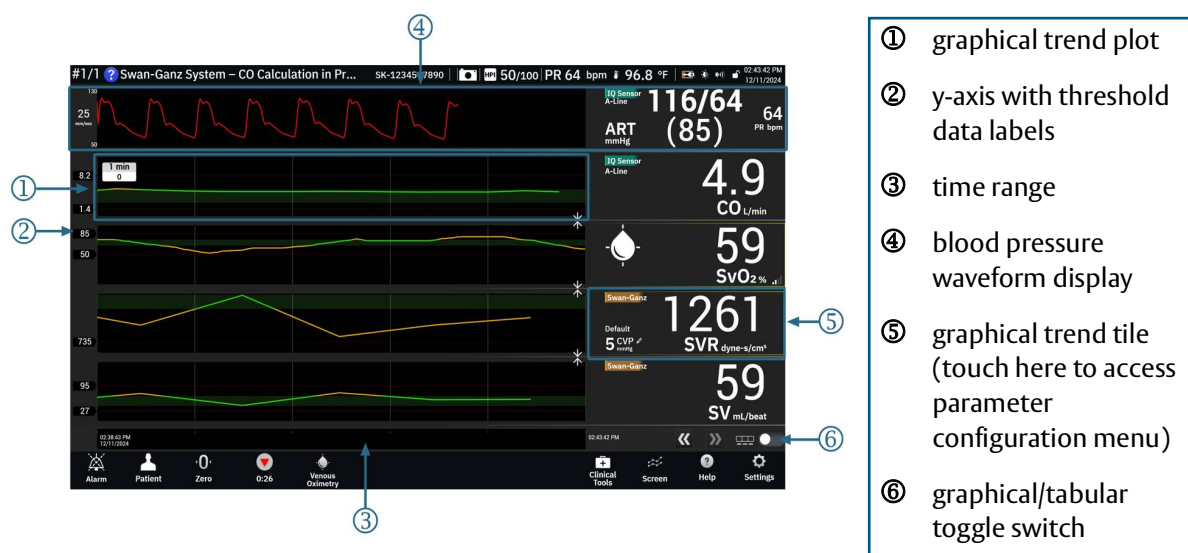

Figure 4-3 Graphical trend screen
The main features of the graphical trend screen are outlined in figure 4-3 and below.
The colors match those of the clinical target indicator (parameter tile outline) on the key parameter tiles in the graphical trend graph when targets are enabled for the parameter. The alarm limits for each parameter are displayed as numerical values on the graph y-axis. See ② in figure 4-3 on page 84.